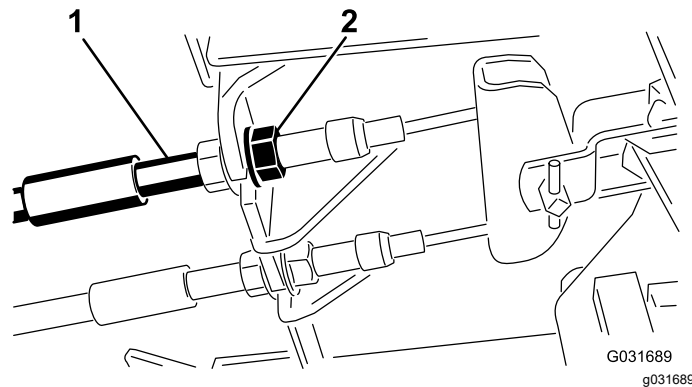

Figure 89
1. To reduce free travel of the brake pedals, tighten the brakes by loosening the front nut on the threaded end of the brake cable (Figure 89).